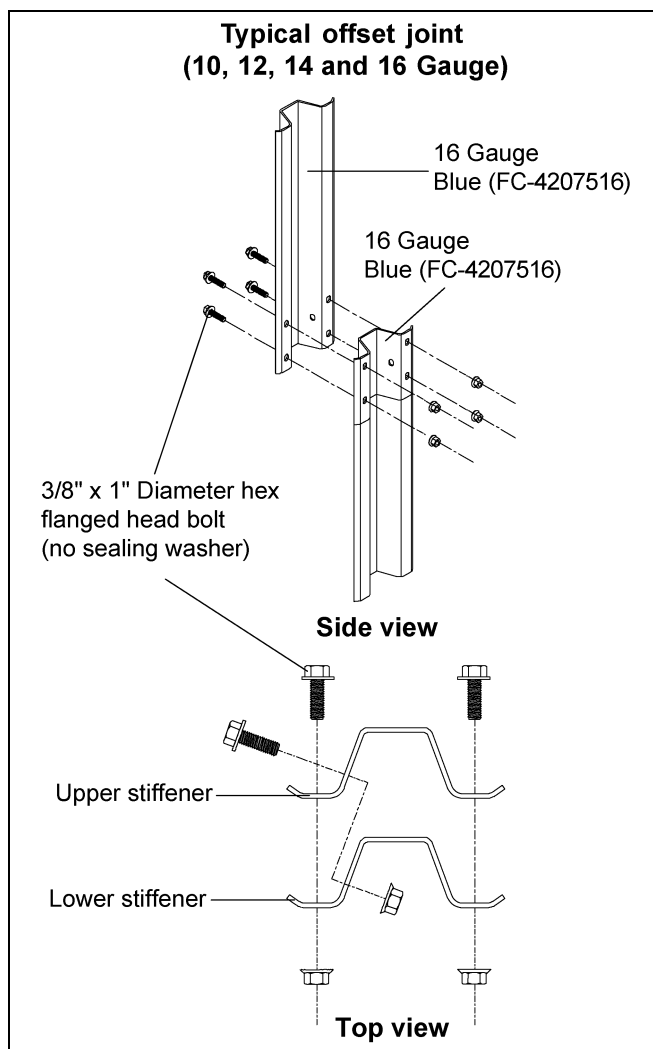

Figure 11D
2. Stiffeners that are 10 gauge through 16 gauge (10, 12, 14 and 16 gauge) have an offset splice, these stiffeners are offset at the top. (See Figure 11D.)